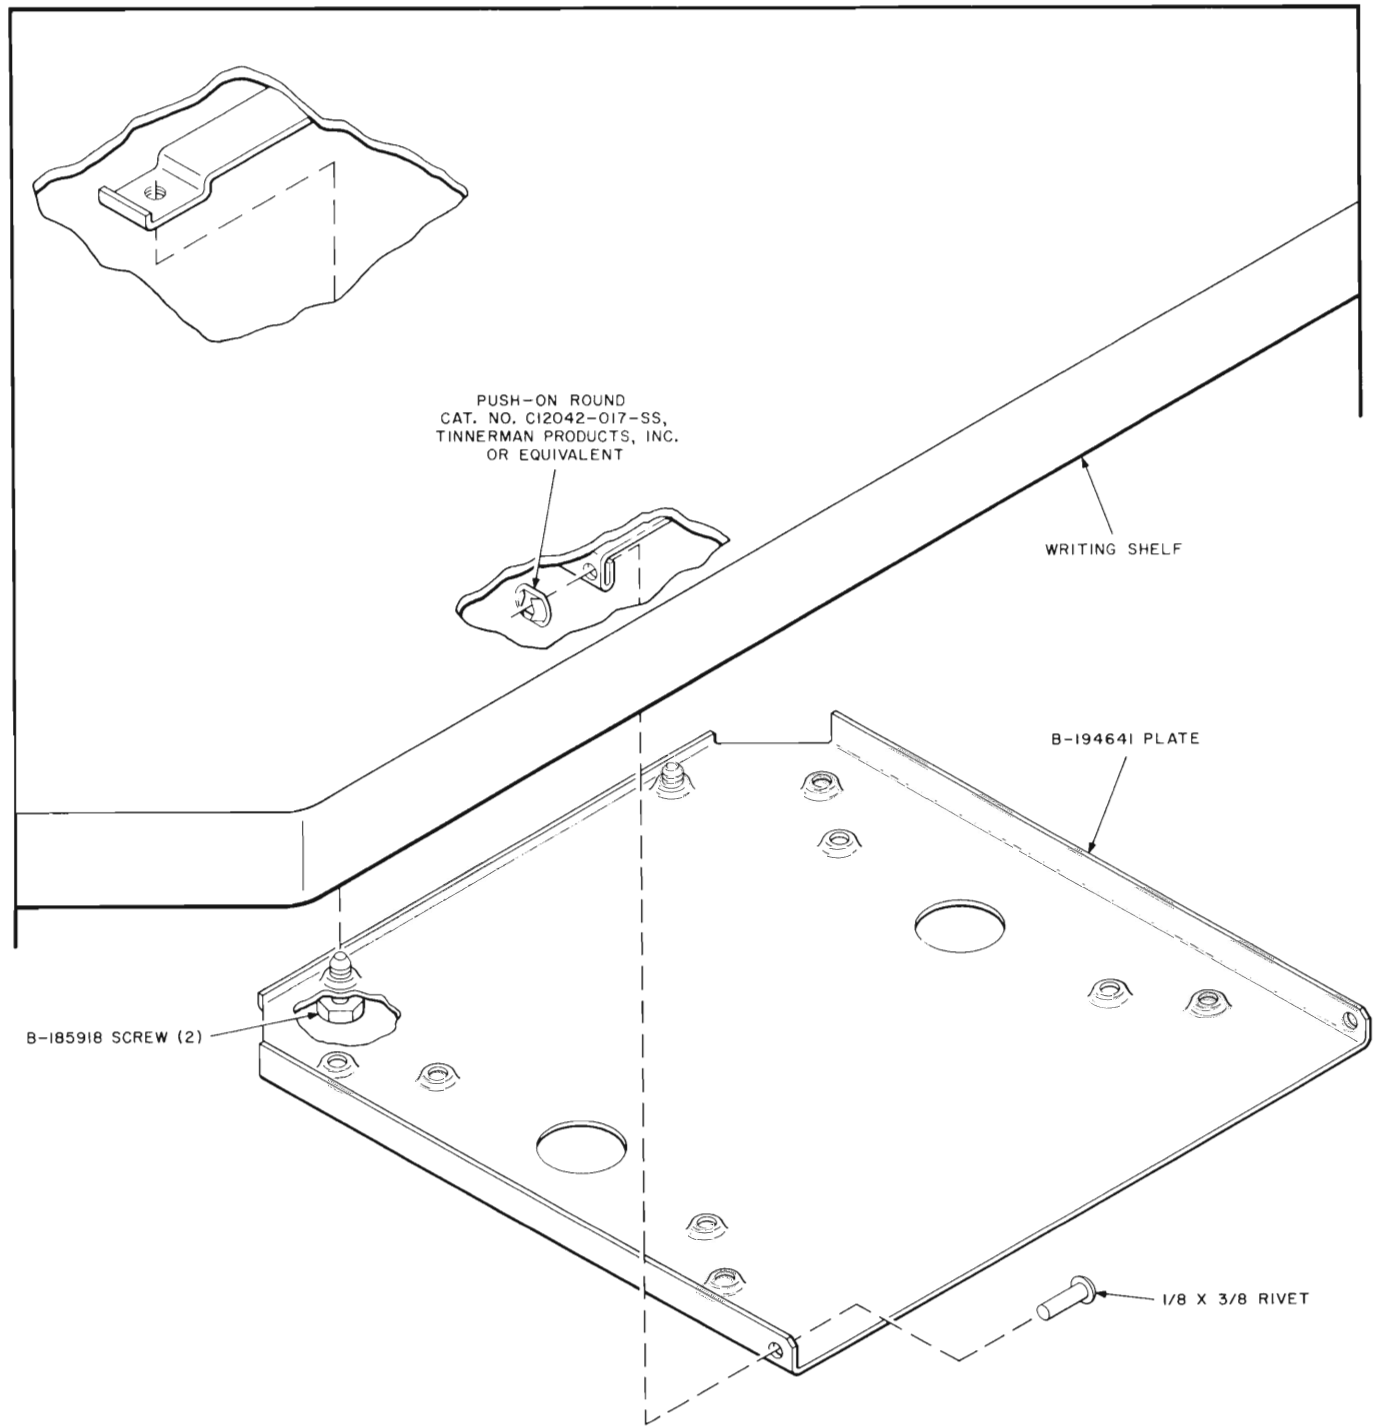

Fig. 4 — Subscriber Set Mounting
4.06 The writing shelf is equipped with brackets for accepting the subscriber set mounting plate. Install the plate in accordance with Fig. 4.